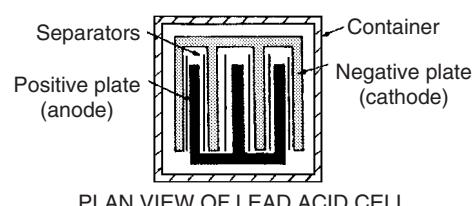

Figure 4.8
- the positive plate (anode) is formed by pressing lead peroxide into the lead grid. The plates are interleaved as shown in the plan view of Fig. 4.8 to increase their effective cross-sectional area and to minimize internal resistance.